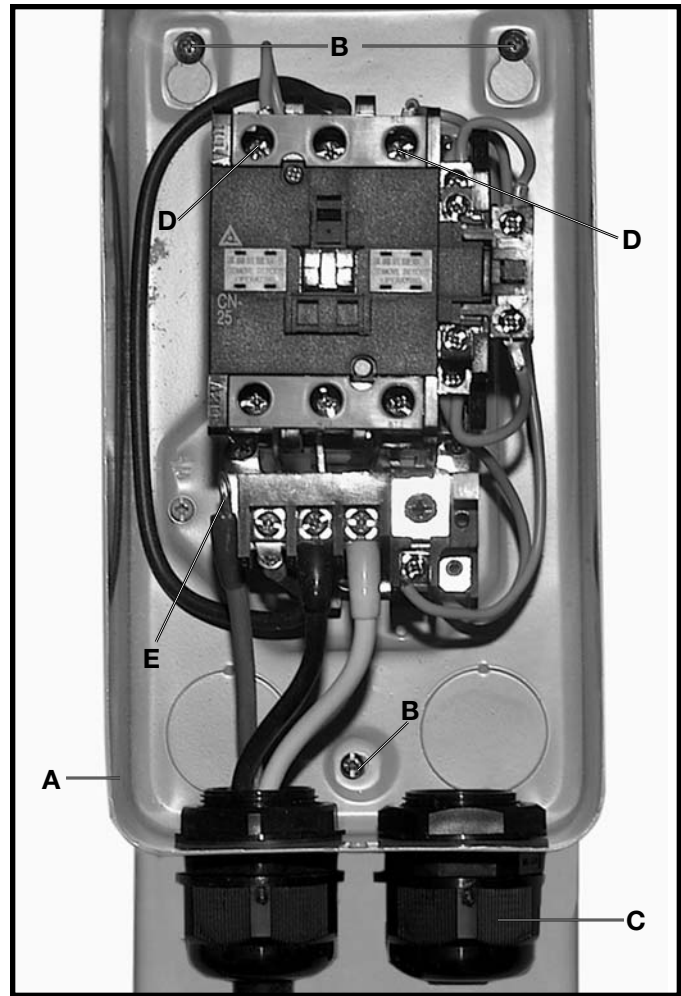
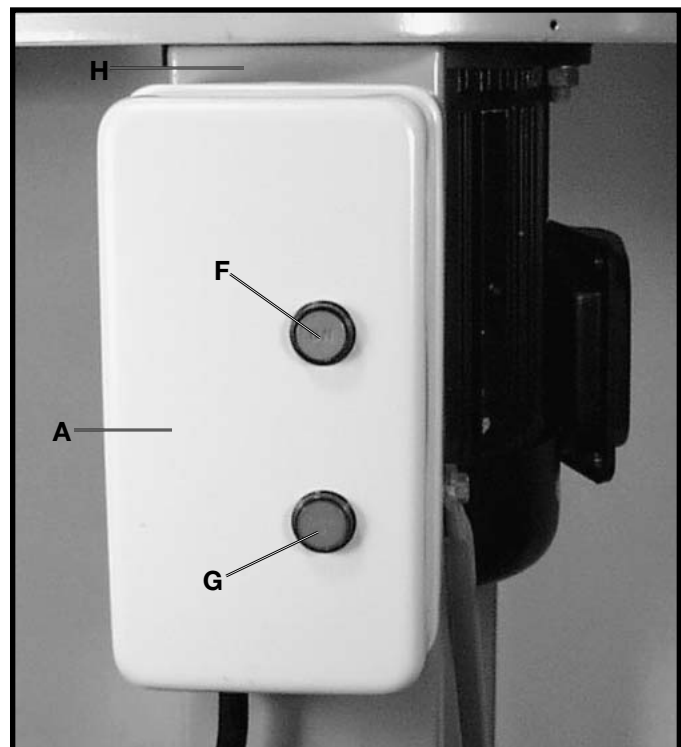

Fig. 32
Fig. 33
2. Align the three mounting holes at the back of the control box, with three mounting holes in front support (not shown) and fasten switch control box to machine with three sheet metal screws (B) Fig. 32.
1. Assemble the control box (A) Fig. 32, to the front of the side support (H) Fig. 33. Insert sheet metal screws (B) Fig. 32, through holes in the controller box and thread the sheet metal screw into the side support and tighten securely.
2. Bring the power cord (not supplied) up through the large knockout hole (C) Fig. 32, in the control box (A) and connect the two power lines to terminals (D) and the green ground wire to ground screw (E). **NOTE: THE POWER CORD MUST BE INSERTED THROUGH THE BUSHING IN THE ACCESS HOLE (C), TIGHTEN THE ACCESS HOLE NUT OVER THE ACCESS HOLE TO HOLD THE POWER CORD IN PLACE.**
3. Reassemble the cover onto the controller box (A) Fig. 33.
4. The ON/OFF buttons are located at the front of the control box. To start the machine, push "ON" button (F) Fig. 33. To stop the machine, push the "OFF" button (G).